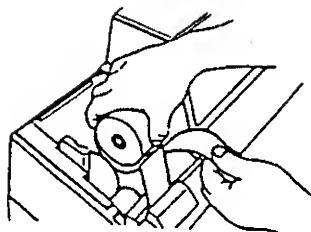

Fig. 7
4. Set the new paper roll in the journal roll holder (righthand side) with the paper end from the bottom (Fig. 7).